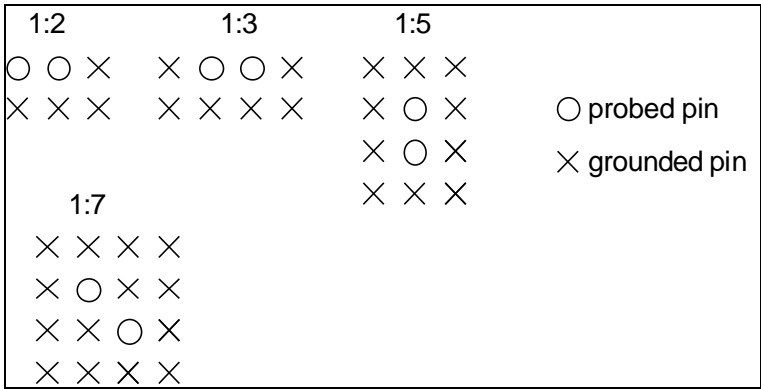

Figure 5 – Signal Ground Ratio
1. The bandwidth for the BGA socket (0.50mm Test Center Probe Contact) was determined from a loop-thru measurement on two adjacent pins with varying numbers of surrounding pins grounded (please see figure 5 and table 2).